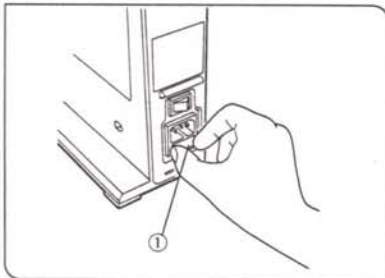

Fig. 11
(Figs. 11,12)
1. Remove the fuse holder ① by squeezing it at the sides and pulling outward. (Fig. 11)